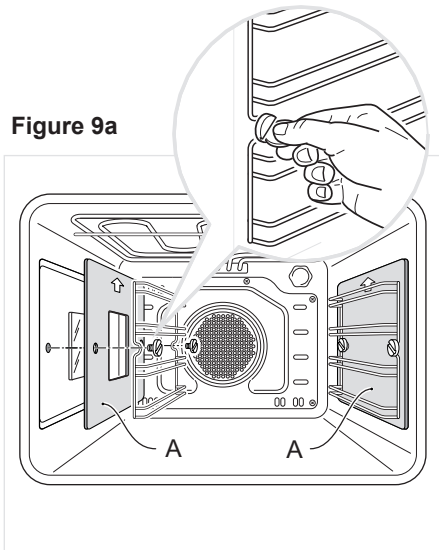

Figure 9a
- Assemble the wire racks on the oven walls using the 2 screws interposing the catalytic panels “A” with the arrow up (fig. 9a). The catalytic panel with the hole for the side oven lamp must be positioned on the left oven wall. **DO NOT INTERPOSE THE CATALYTIC PANEL WITHOUT THE HOLE ON THE LEFT OVEN WALL.**
- Unscrew the fixing screws and slide off the wire racks and the catalytic liners to the oven wall as in fig. 9a.